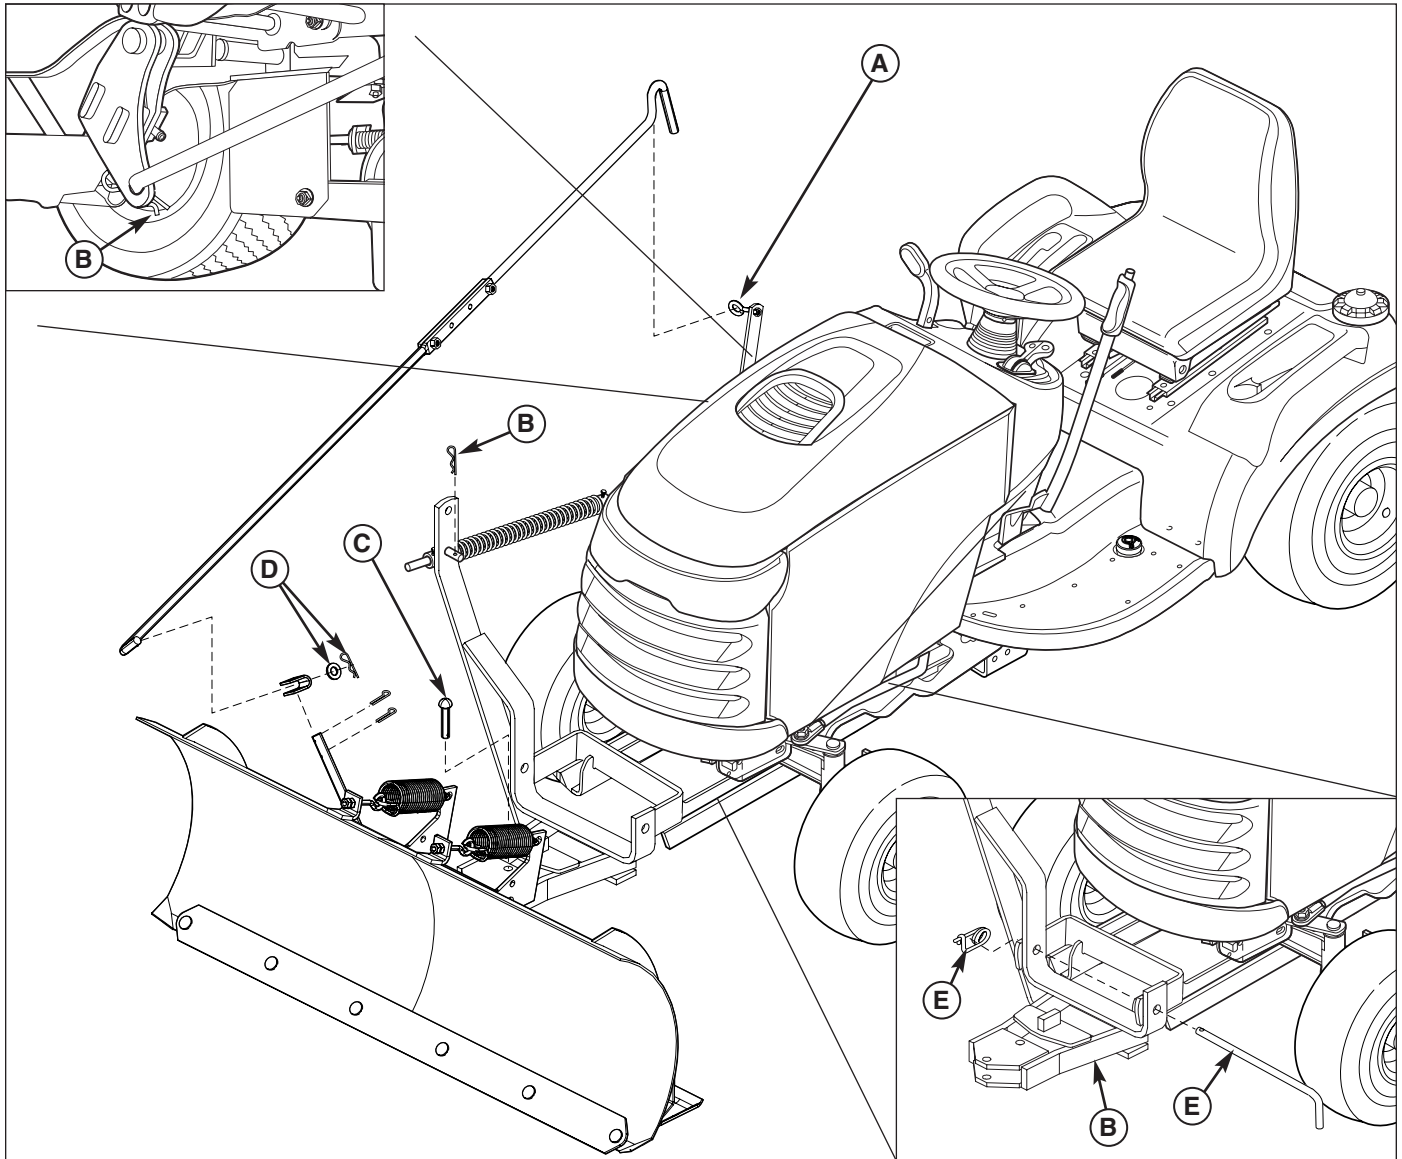

Figure 15. Dozer Removal
3. Connect the lower angling rod (F, Figure 15) to the dozer release lever using a hair pin clip and washer (G).
4. Insert the upper control rod (C) through the eyelet (B), and secure the eyelet to the support using a 1/4-20 nylock nut (A).